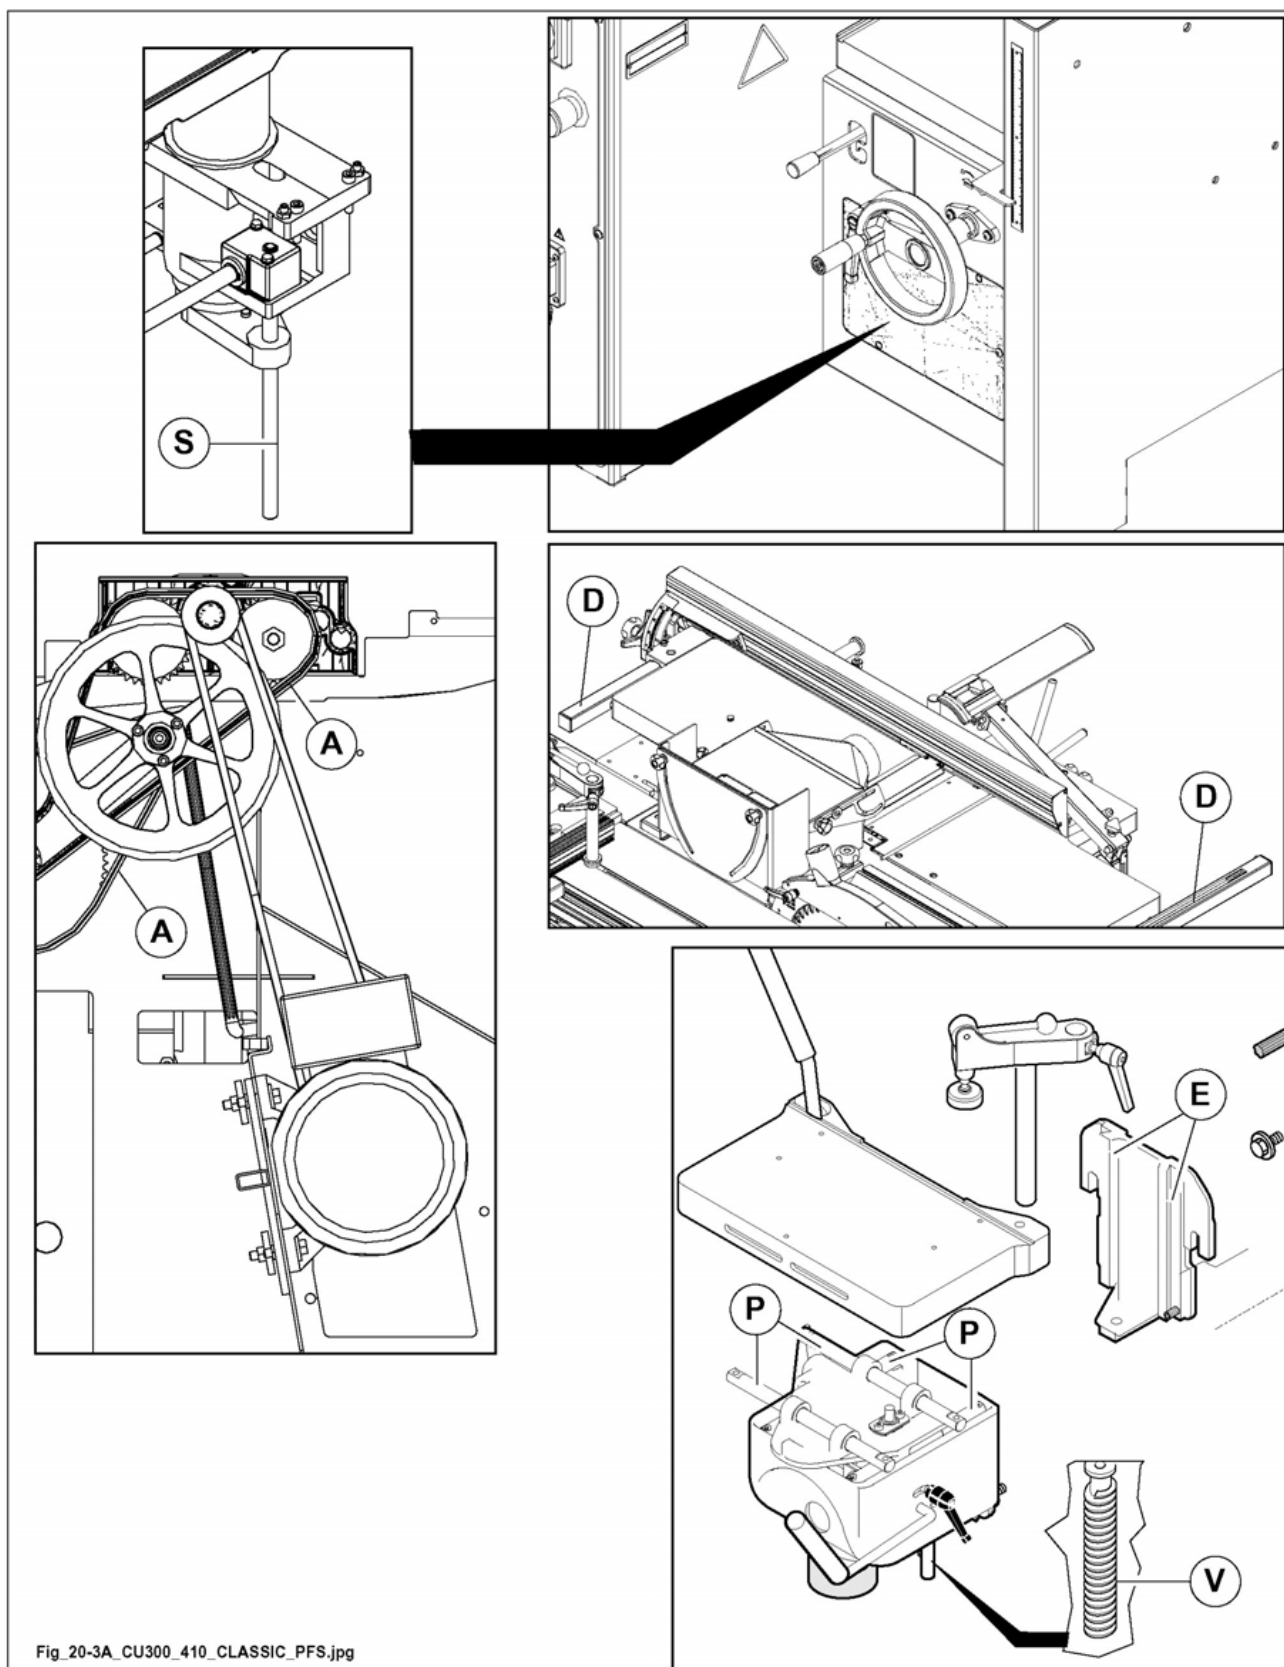

Fig. 20.3A
- 1) worm (V fig. 20.3A) for lifting the mortiser **OPT**.
- 2) Thicknessing table - Screw (S fig. 20.3A) for height adjusting.
- 3) Transmission chain (A fig. 20.3A) of the motion to the feed rollers.
- 1) sliding rod (D fig. 20.3A) on planer guide.
- 2) Sliding rods (P fig. 20.3A) of mortiser table **OPT**.
- 3) Guides (E fig. 20.3A) for sliding mortiser **OPT**.